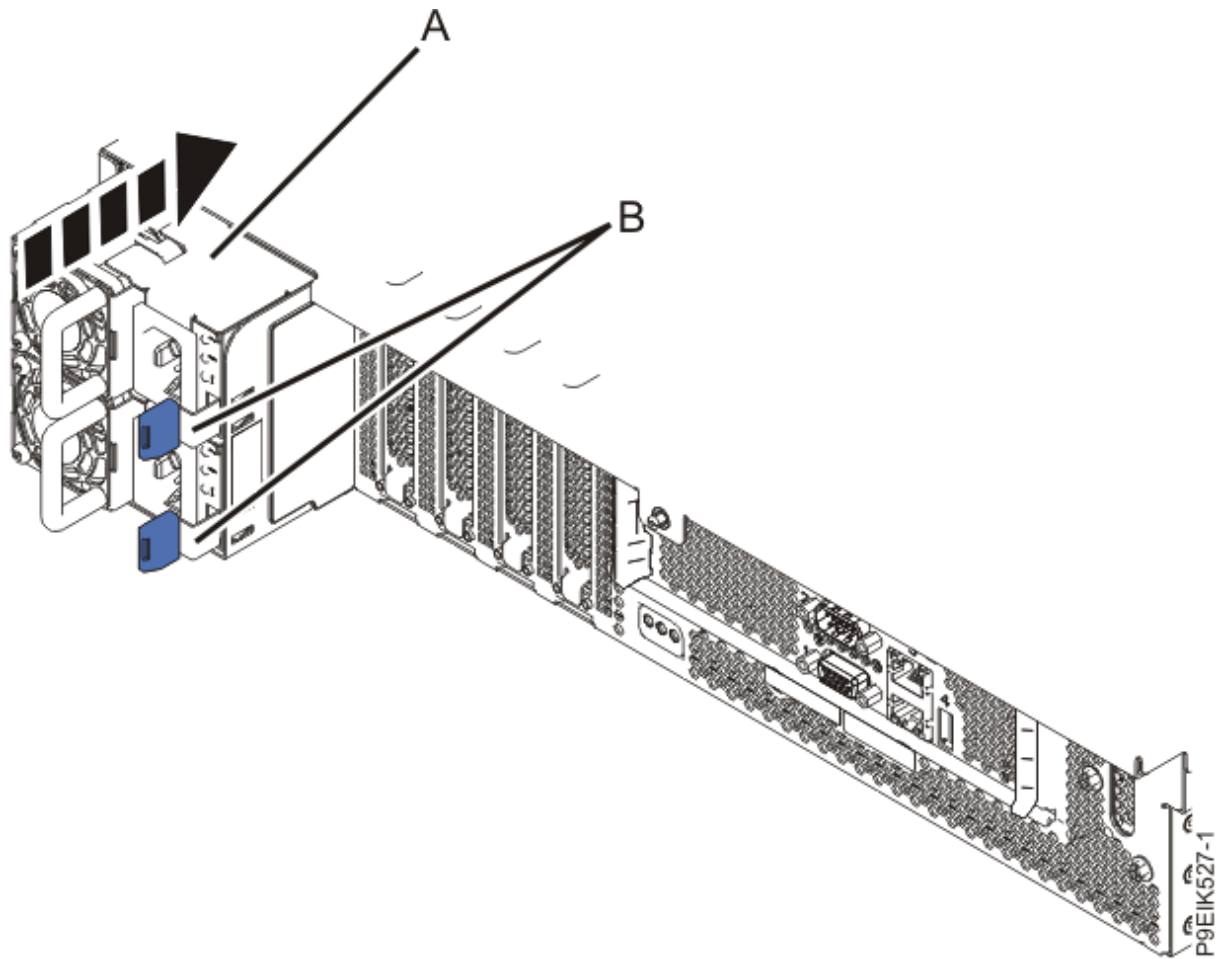

Figure 26. Replacing the power supplies in the system
4. Replace the power supplies as shown in Figure 26 on page 37.